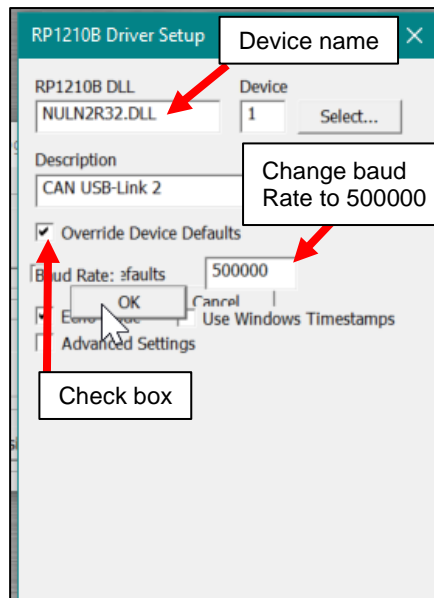

Figure 5: Finish Configuring the Driver
- The tool/device name will show in the first field. Check the *Override Device Defaults* box, change the baud rate from 250000 to 500000, then click *OK*. See **Figure 5**.